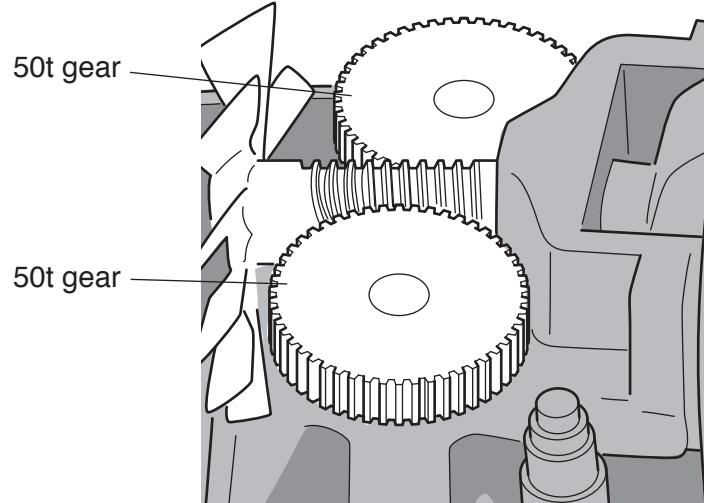

Fig. 6
- (b) (i) Calculate the velocity ratio of the gear system in Fig. 6.
- (i) The 50t gears shown in Fig. 6 are made from a thermoplastic material. State the name of a suitable thermoplastic material.